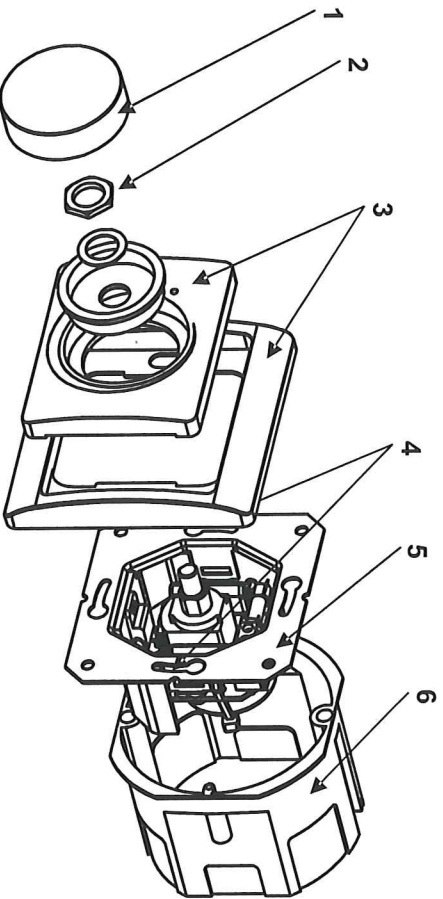

Fig. 1 Controller construction
- To connect the controller to electricity network (see Fig. 1):
- to dismount controller knob (1);
- to unscrew the mount nut (2) of upper cover and remove the upper cover (3);
- to unscrew the mount screws (4) connecting controller to mounting box, and to dismount controller (5);
- to install connectors to mounting box (6);